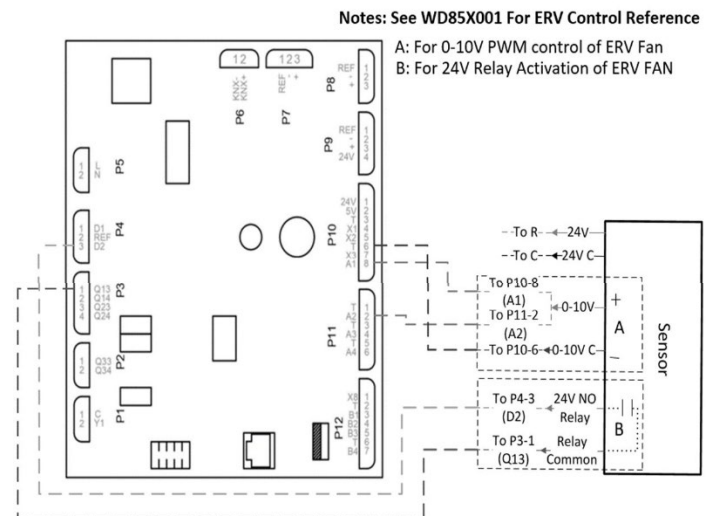

Figure 27 Humidity/CO2 Sensor
3. For sensors with 0-10V PWM fan control use connection A shown in **Figure 27 – Humidity/CO2 Sensor**. For 24V relay activation of fans use the B connections. Insert sensor wires into specified terminals. **DO NOT REMOVE ANY EXISTING WIRES FROM ERV CONTROLLER**